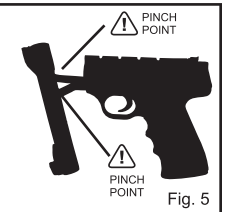

Fig. 5
Avoid contact with the trigger. Hold the pistol firmly, grasp the Barrel, pull the barrel all the way down and under the air pistol until you reach the end of the cocking stroke. You will hear a click indicating the spring piston has been locked into position and the barrel will move freely without tension. Be cautious of pinch points (See Fig 5).
**CAUTION:** BE CAREFUL TO KEEP FINGERS CLEAR OF COCKING MECHANISM. (SEE "PINCH POINTS", FIG. 5) GRASP THE BARREL FIRMLY AS YOU COCK IT AND CLOSE IT TO PREVENT IT FROM SNAPPING BACK AND POSSIBLY CAUSING INJURY.